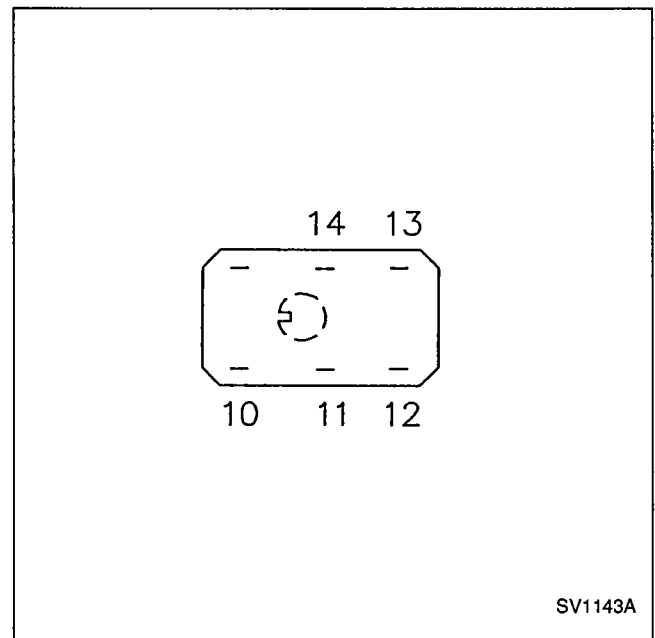

FIGURE 28. ICE/OFF/WATER PUMP SWITCH CHECK
1. Inspect switch for correct wiring (Figure 28).